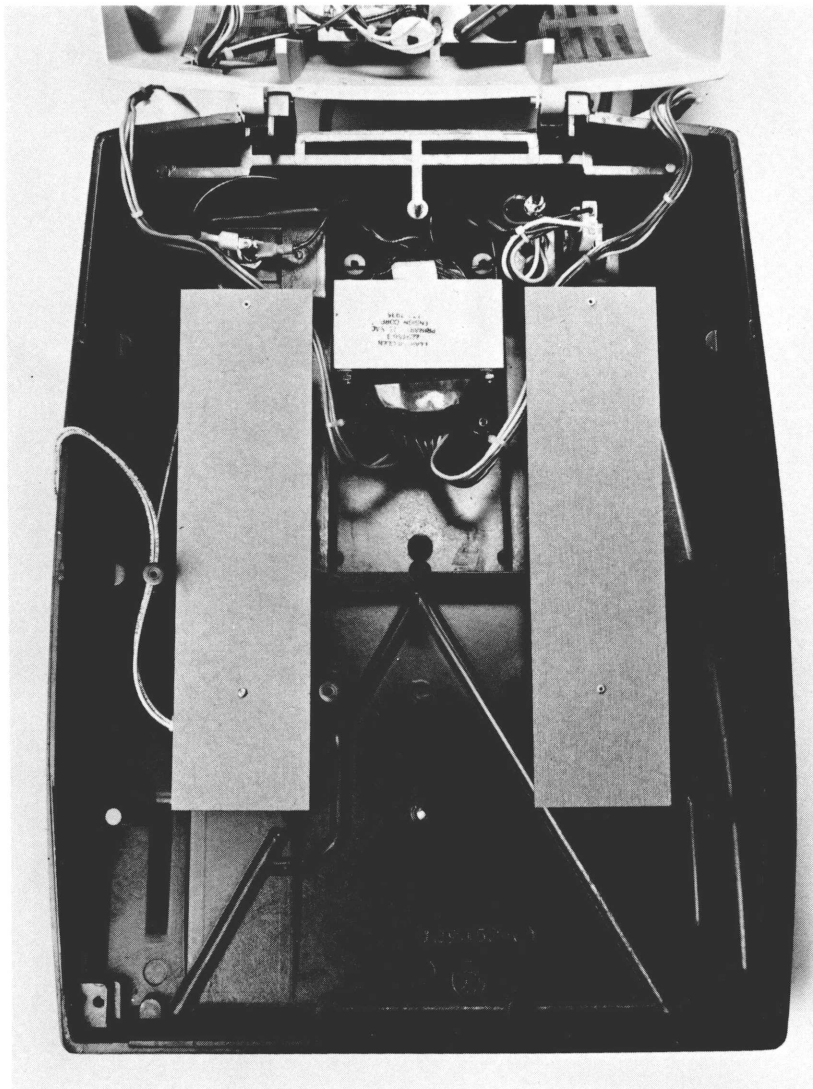

Figure 3-1
2. Remove the baffle plates located on either side of the power transformer (Figure 3-1). Riveted baffle plates can be removed by simply pulling the baffle plates up. Then peel off the back strips and mount the screens to the edges of the three openings. Use a firm amount of pressure and check that the screens are securely mounted.